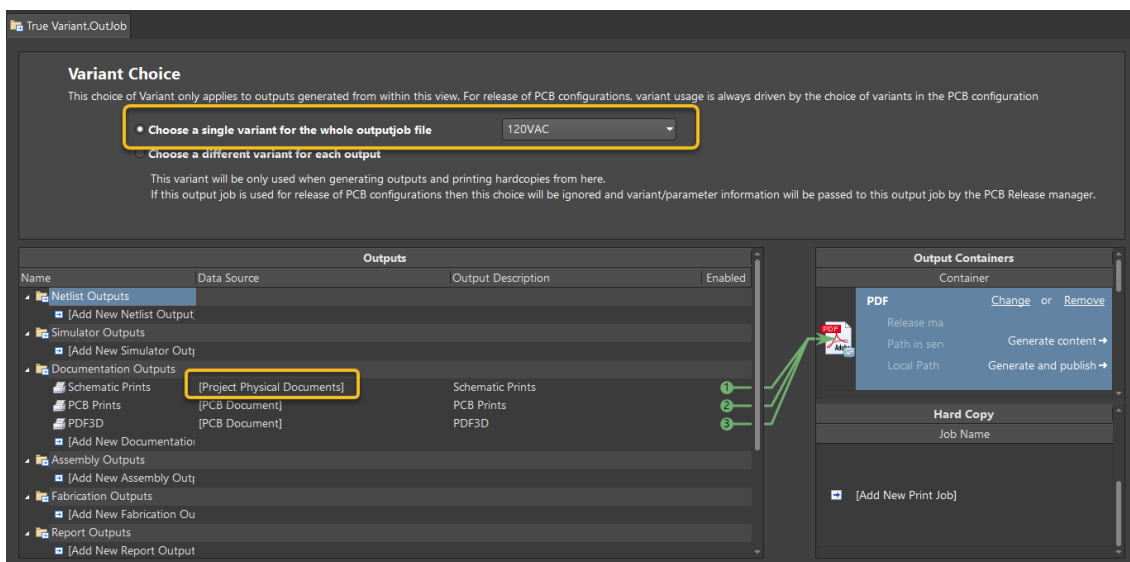

Figure 10. Generating PDF for Schematic and Assembly Drawing
36. At the top of the Output Job interface, in the Variant Choice section, select **Choose a single variant for the whole output job file**, as shown in Figure 10. For now, you will use the 120VAC variant.